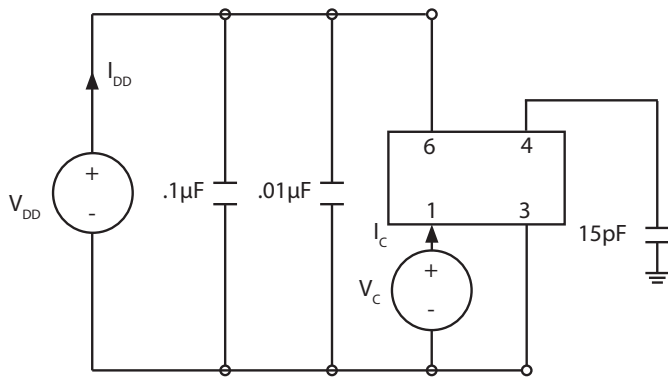

Figure 2. CMOS Test Circuit
- 2] Parameters are tested with production test circuit as shown in Figure 2.